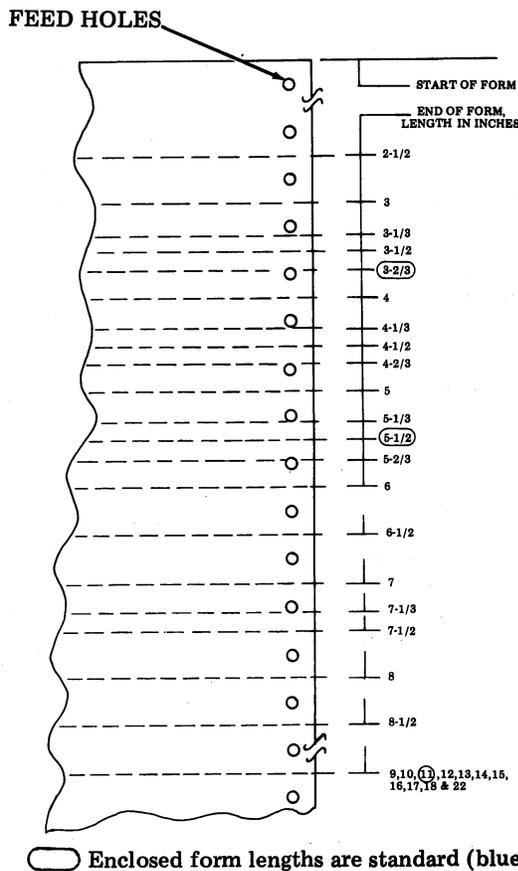

Fig. 17
2.16 The printer will accommodate sprocket feed paper lengths from 2-1/2 inches to 22 inches. Length of forms is determined by the color of the form out belt and the position of the form selector lever. See Fig. 17.